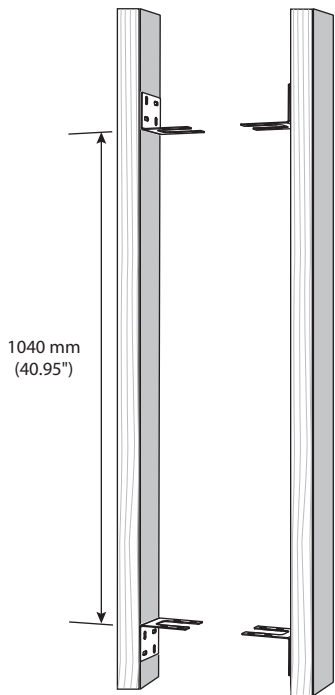

Fig. 1 Install the Brackets to the Wall Studs
3. Install the four brackets onto the wall studs, and make sure the distance between the top and bottom brackets is as shown in Fig. 1.